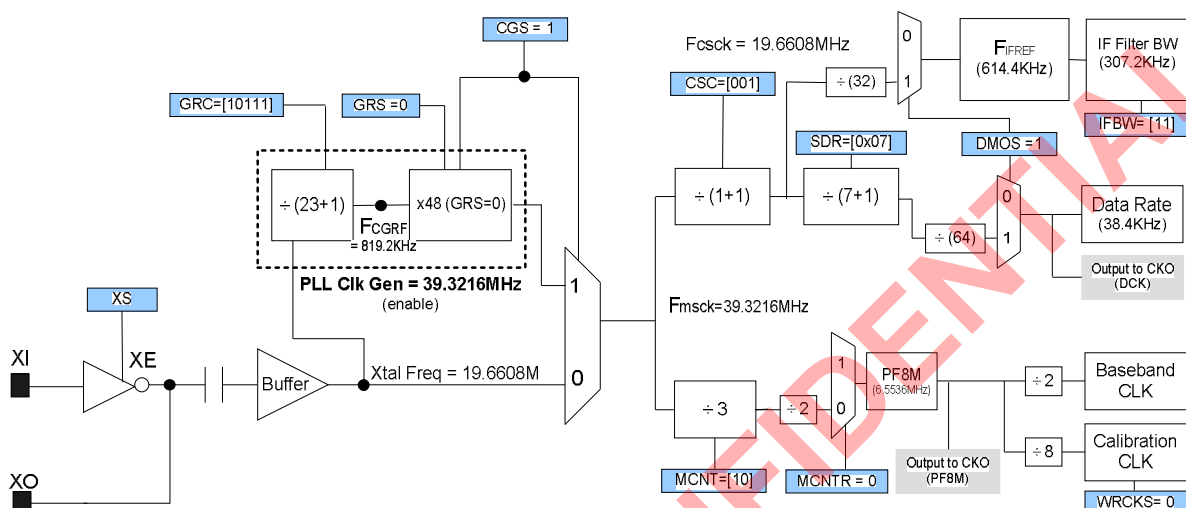

Figure 12.5 Configurations of 38.4Kbps when IFBW = 307.2KHz
5. If choosing IFBW = [11], IFBW will become 307.2KHz instead of the expected 250KHz because of F_{IFREF} (higher F_{IFREF} results larger IF bandwidth if IF Filter Calibration is successful.). Figure 12.5 illustrates the different results of CSC and FCSCK.